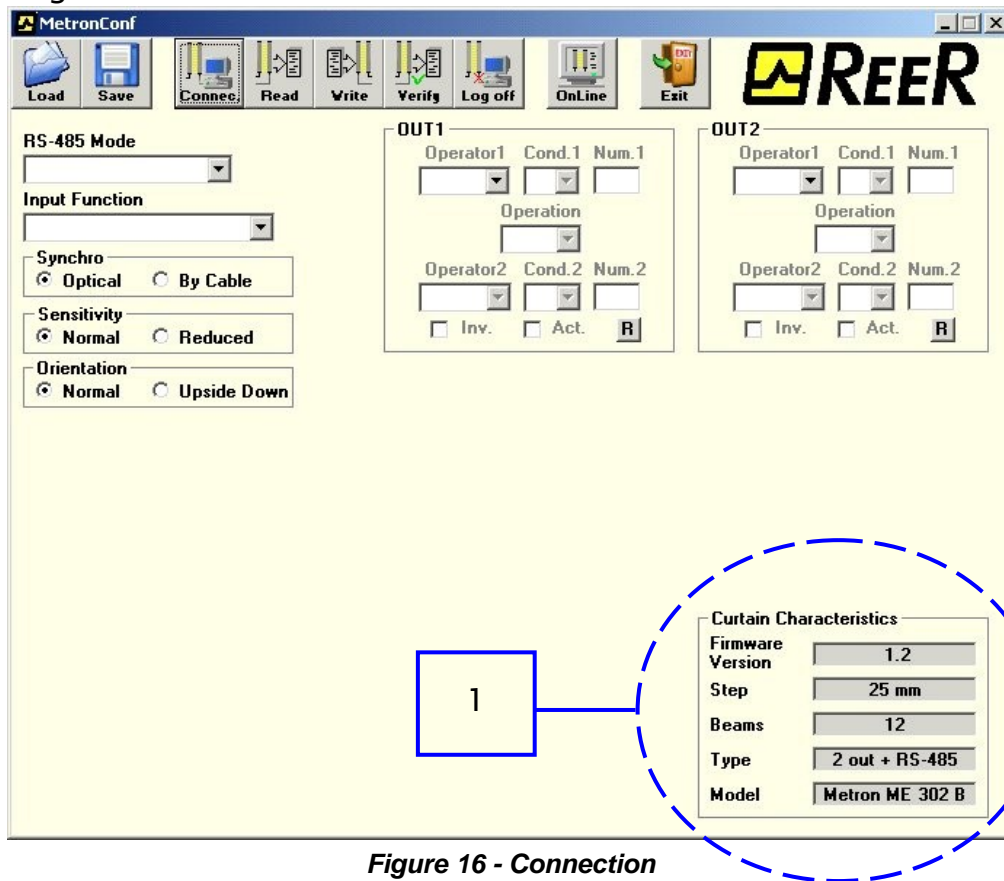

Figure 16 - Connection
When the connection has been established, the "CURTAIN CHARACTERISTICS" (1) panel in the bottom right corner is automatically completed (Figure 16).